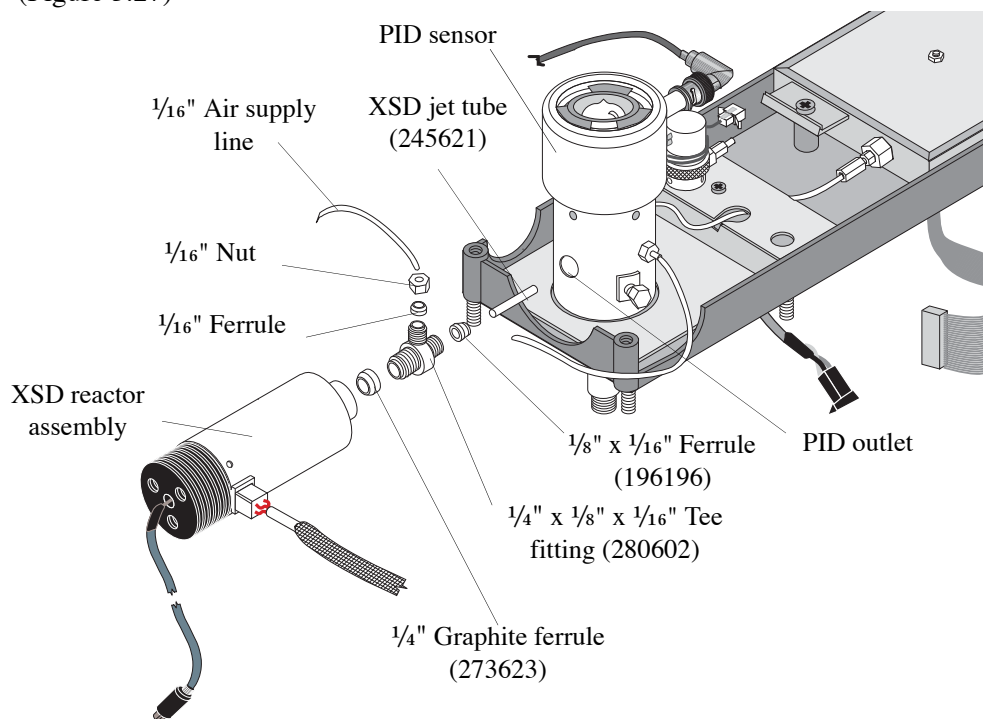

Figure 3.27. Model 5390 PID/XSD assembly
2. Slide a $\frac{1}{8}$ " x $\frac{1}{16}$ " I.D. ferrule (PN 216366) onto the XSD jet tube (PN 245621) (Figure 3.27)